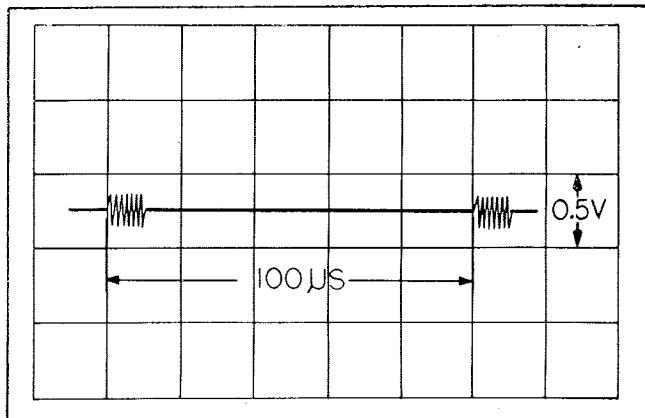

Figure 6.18 - Terminal E89 Waveform
l. Reconnect oscilloscope to terminal E89. The observed 10 KC spectrum waveform should resemble the one shown in figure 6.18.